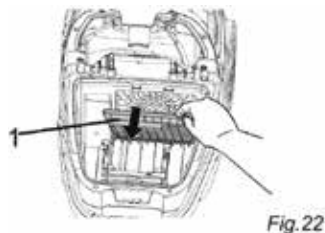

Fig. 22
2. Remove the filter holder with motor protection filter (Fig. 22/1). First, flip the filter holder forwards, then pull the filter up and out.